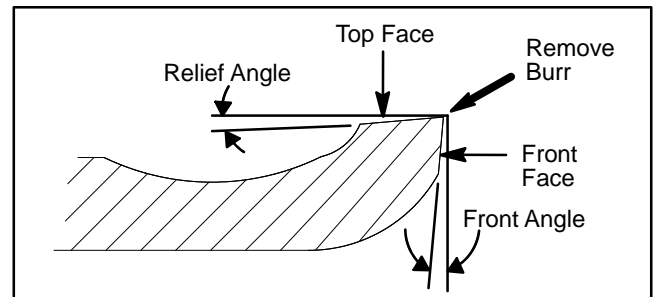

Figure 15
7. When the backlapping operation is completed and cutting reel is stopped, run a file across the front face of the bedknife (Fig. 15). This will remove any burrs or rough edges that may have built up on the cutting edge.